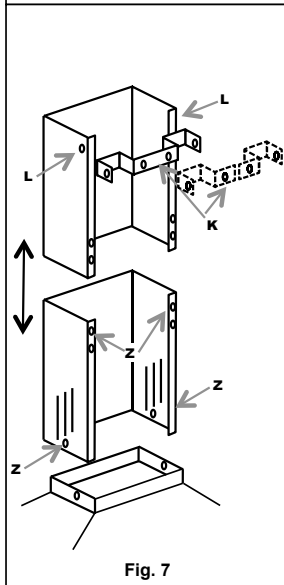

Fig. 7
• MONTAGEM DAS CHAMINÉES (fig. 7):